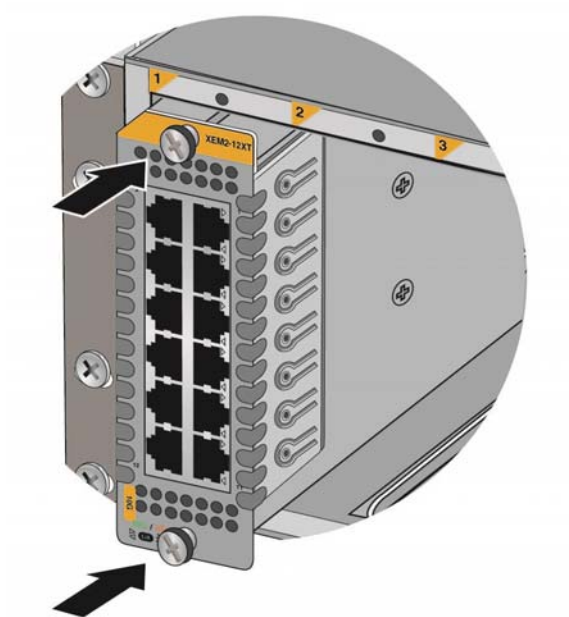

Figure 45. Seating an Ethernet Line Card in the Chassis
5. When you feel the line card make contact with the connector on the backplane of the chassis, gently press on the top and bottom of the faceplate to seat the card on the connector. Refer to Figure 45 on page 82.